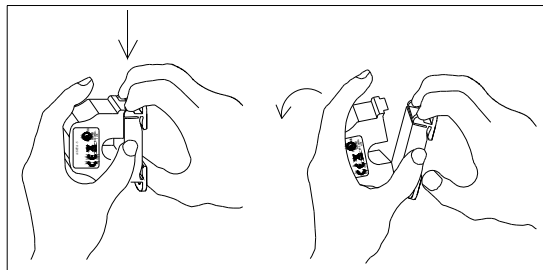
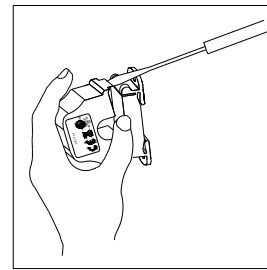

Figure 3: Opening Sensor by Hand
Figure 4: Opening w/ Screwdriver
Pressing down on the two (2) side tabs and swinging the cover open opens the split core current sensor as shown in **Figure 3** below. Lifting up on the latch with a flat-tip screwdriver as shown in **Figure 4** below can also open the unit. Press down firmly on the cover to close the current sensor. An audible “click” will be heard as the tab slides over the tongue on the base.